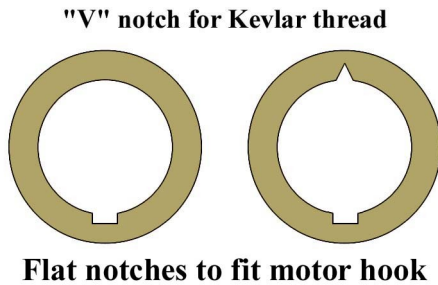

Figure 1
- **Step 1** Using a sharp hobby knife, modify the two CR-916 rings as shown in Figure 1. Cut the "V" notch in only one of the rings, and use this ring at the forward end of the mount.